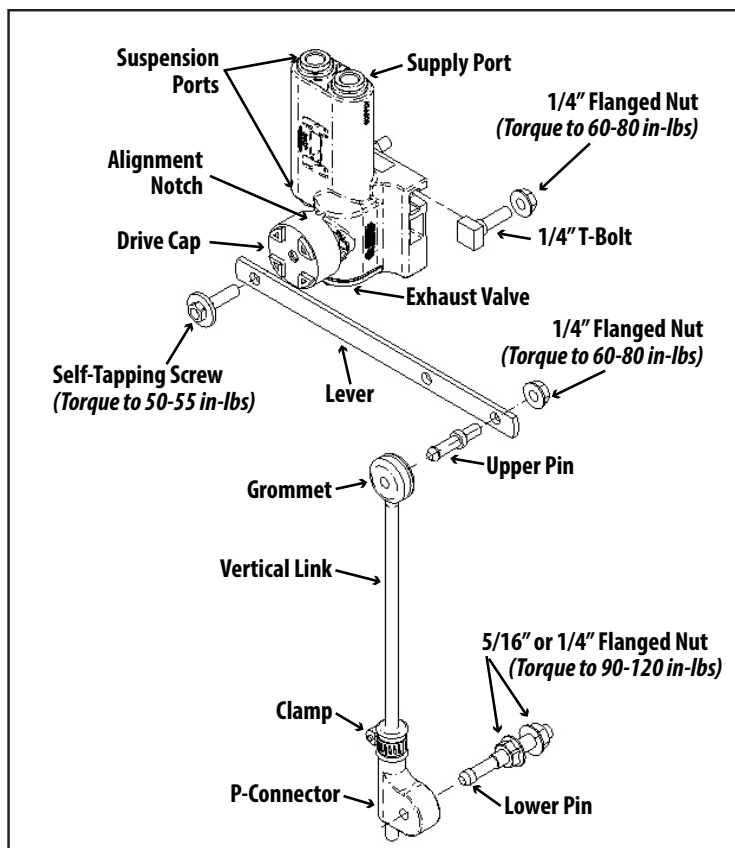

Figure 1. (Non-Dump HCV Shown) Refer to drawing #63300AAA00 for the available height control kit (HCK) configurations.
1. Check location of alignment notch on drive cap. Lever should rotate up to fill ("FILL") and down to exhaust ("EXH"). Place lever into drive cap slots and attach. Torque tapping screw to 50-55 in-lbs (Figure 1).
3. Attach vertical link "P-Connector" to lower mounting bracket with the lower pin. Torque to 90-120 in-lbs (Fig 1). With lever arm in the center position, slide vertical link (rod) up-or-down through P-Connector until the grommet is at the same height as lever. Connect vertical linkage to lever with upper pin. Torque to 60-80 in-lbs (Fig 1).